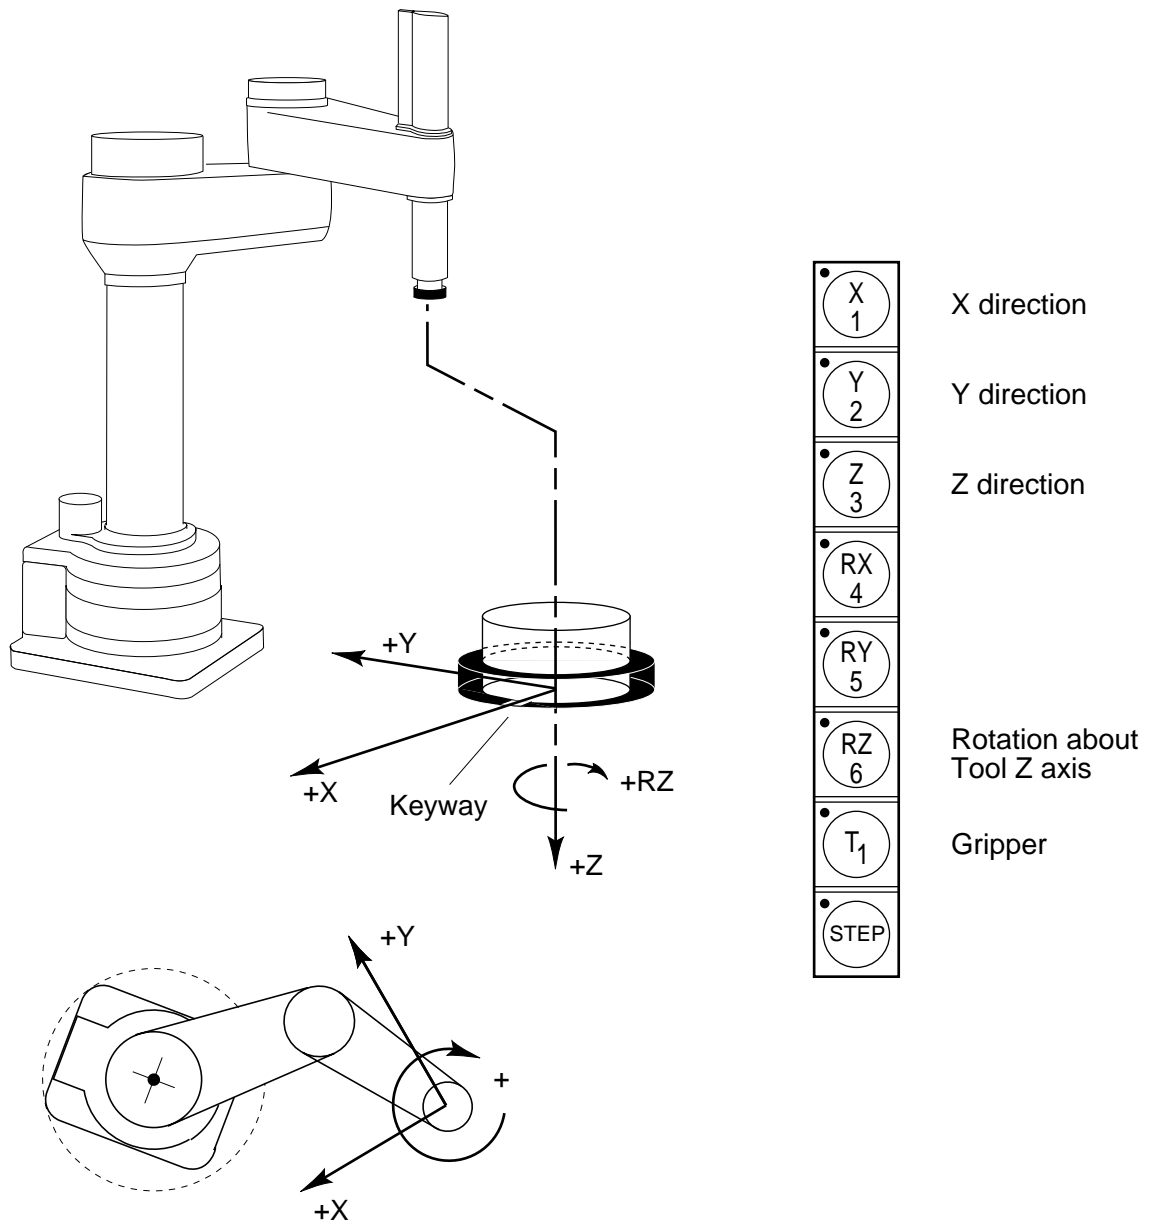
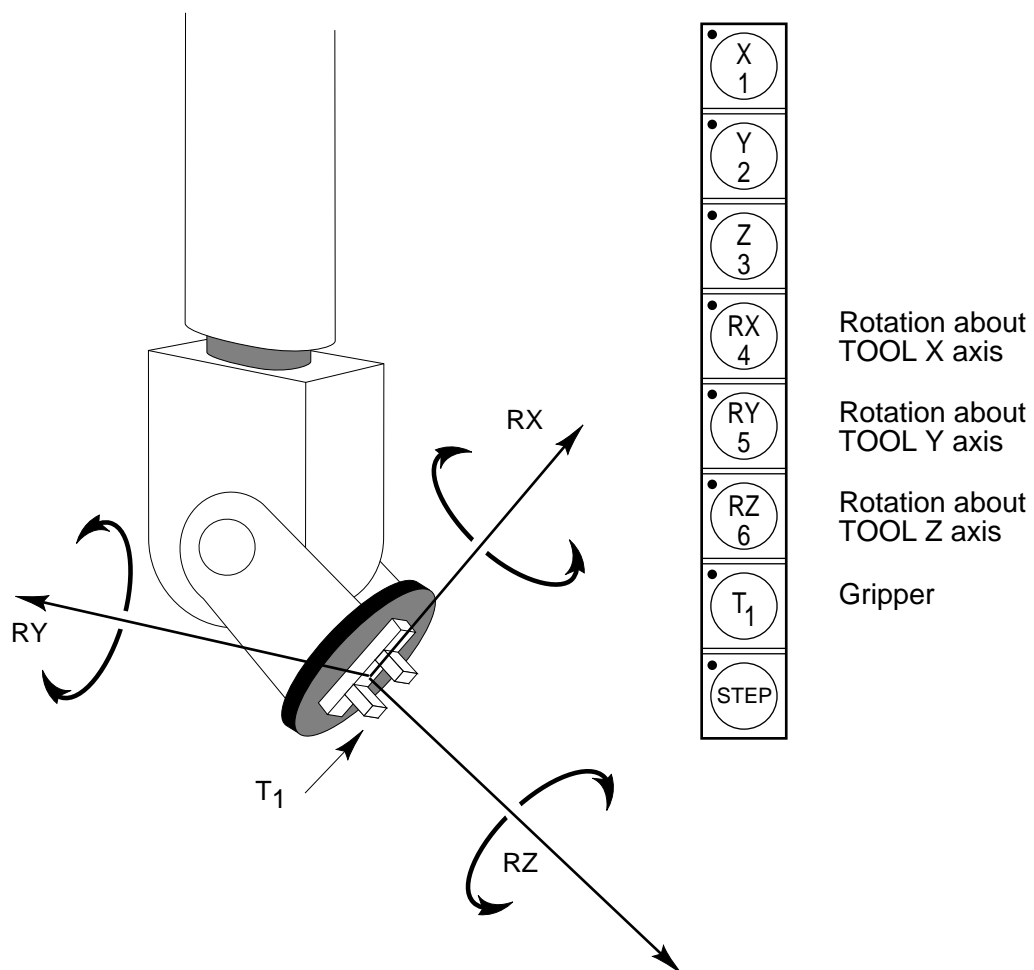

Figure C-15. TOOL State (Four-Axis SCARA)
Figure C-16. TOOL State (Six-Axis Robot)
In a four-axis robot, positive rotation of the gripper (RZ) is clockwise as viewed from above. Figure C-15 shows the tool coordinate system for a four-axis SCARA robot.
Figure C-16 shows the tool coordinate system on a six-axis robot.
NOTE: Figure C-15 and Figure C-16 are drawn with the assumption that the TOOL transformation is set to NULL (all values are 0). If a TOOL transformation is in effect, the tool coordinate system will be offset and rotated by the value of the TOOL transformation. Any motion in tool state will now be relative to the offset coordinate system, and not the center of the tool flange. See the *V+ Language Reference Guide* for details on TOOL transformations.